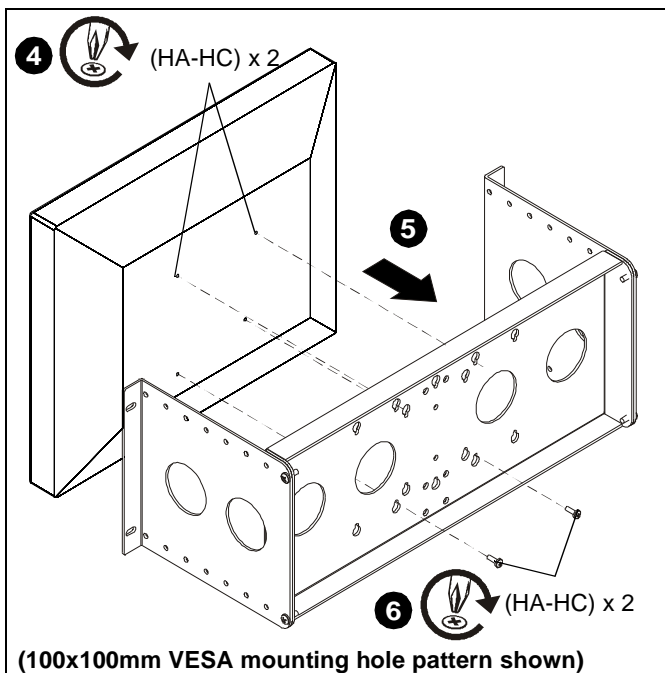

Figure 3
4. Start two (or three if applicable) screws (HA, HB, or HC) into the upper mounting holes in back of display. (See Figure 3)
5. Align two screws in display back with upper teardrop mounting holes in bracket assembly and lower display until screws are seated in lower area of teardrop mounting holes. (See Figure 3)
6. Install two (or three if applicable) of the same screws through lower mounting holes in bracket assembly, and into display back. (See Figure 3)